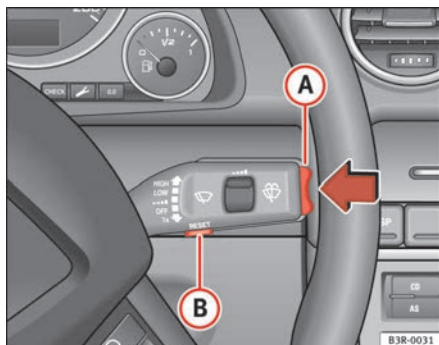

Fig. 57 Windscreen wiper lever: Function selector switch
- To change the speed limit, press the top or bottom of the function selector switch on the windscreen wiper lever (A) ⇒ fig. 57. The speed limit displayed will then increase or decrease by 10 km/h at a time.
- Now press and hold the Reset button on the windscreen wiper lever (B) ⇒ fig. 57 until the crossed out warning symbol for speed limit 2 appears on the display.